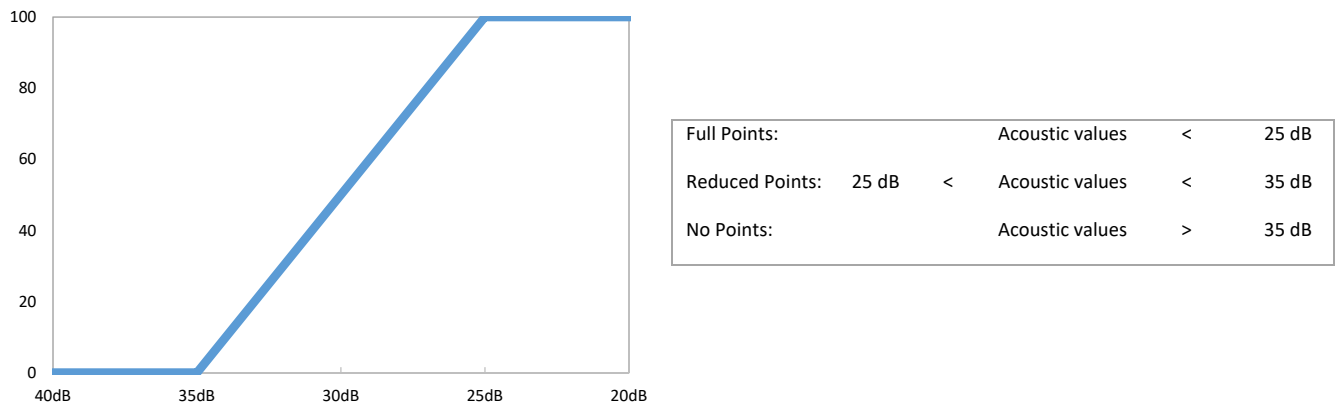

Figure 12. HVAC sound level inside housing unit point's distribution
- b) Reduced points will be earned if the sound level is between 25 dB and 35 dB. Reduced points values are scaled linearly, as shown in Figure 12.